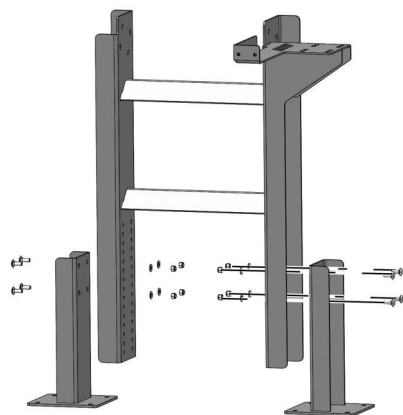

FIG. 3-2
1. Assemble the frame legs to the upper frame at the expected height of the finished incline as shown in FIG. 3-2.